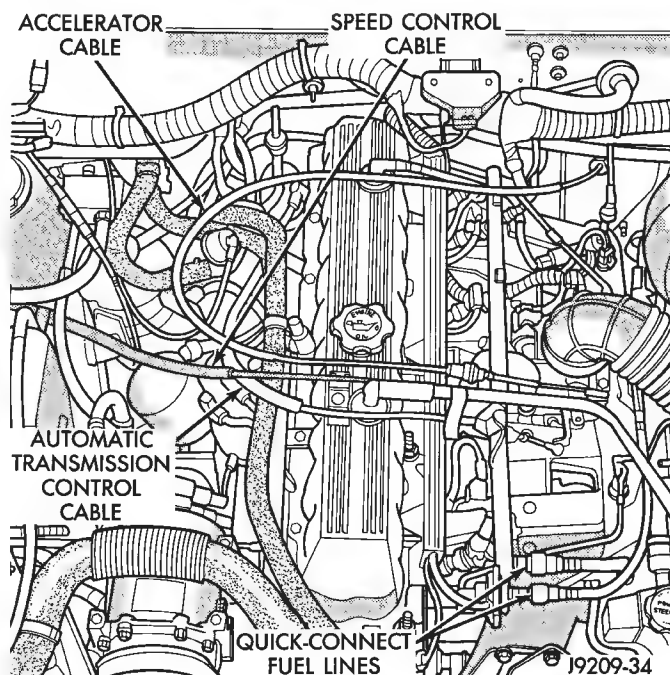

Fig. 15 Accelerator Cable, Speed Control Cable, Automatic Transmission Control Cable & Quick-Connect Fuel Lines
- (14) Disconnect the throttle linkages (Fig. 15).
- (15) Disconnect the speed control cable (if equipped)—(Fig. 15).
(16) Disconnect the line pressure cable (if equipped with automatic transmission).
(17) Disconnect injection system wire harness connector at the dash panel.
(18) Disconnect the distributor electrical connection and the oil pressure switch connector.
(19) Perform the Fuel System Pressure Release procedure (refer to Group 14, Fuel System).
(20) Disconnect the quick-connect fuel lines at the fuel rail and return line by squeezing the two retaining tabs against the fuel tube (Fig. 15). Pull the fuel tube and retainer from the quick-connect fitting (refer to Group 14, Fuel System for the proper procedure).